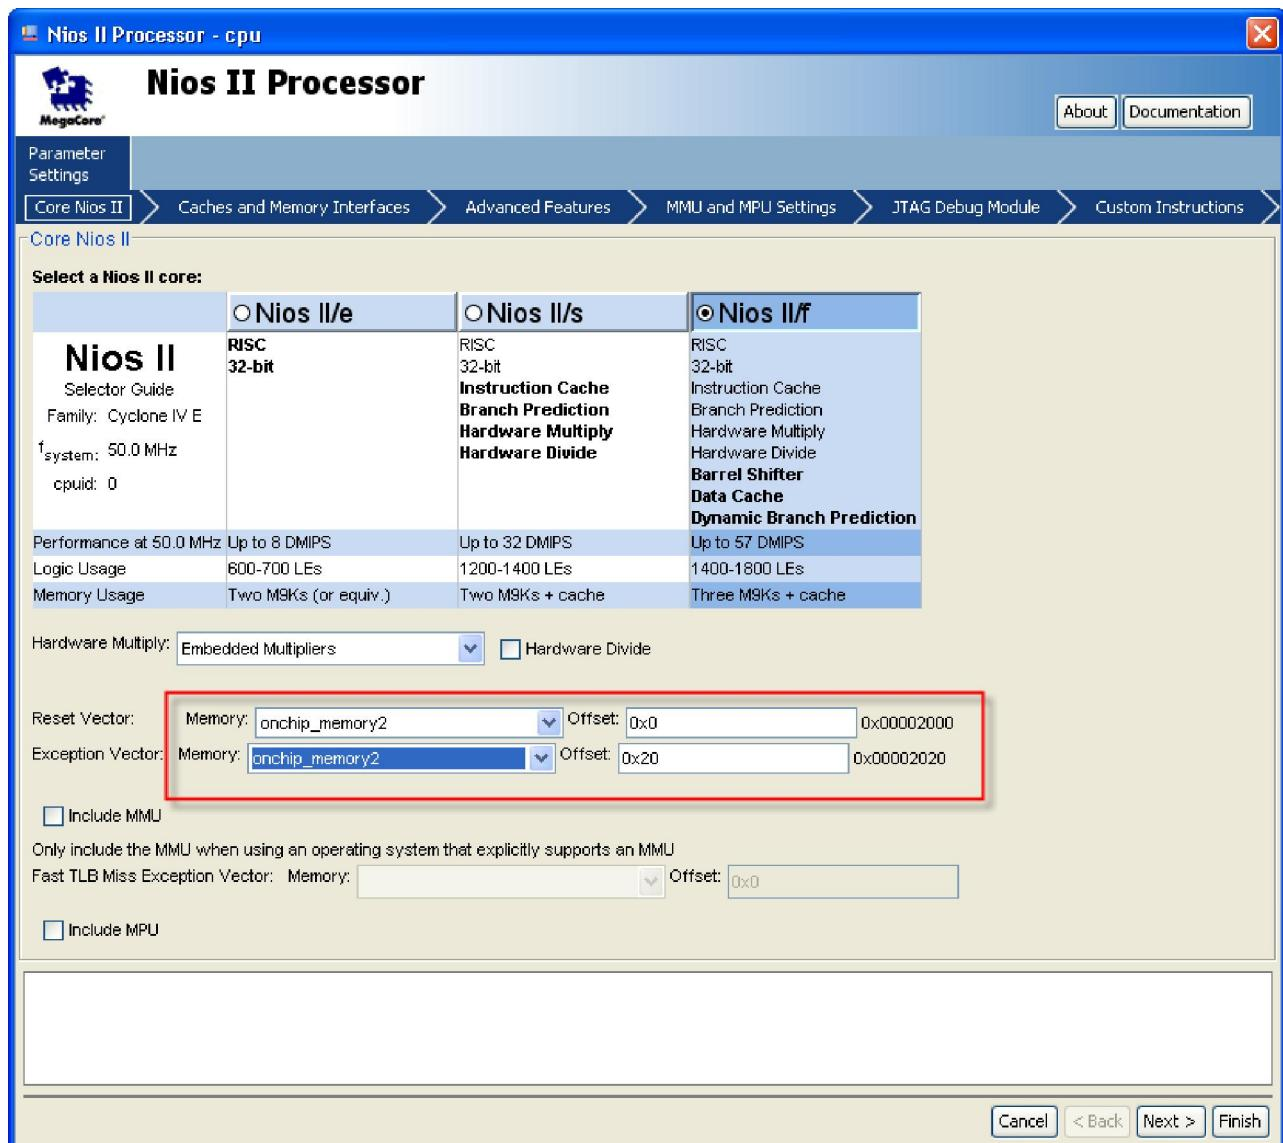
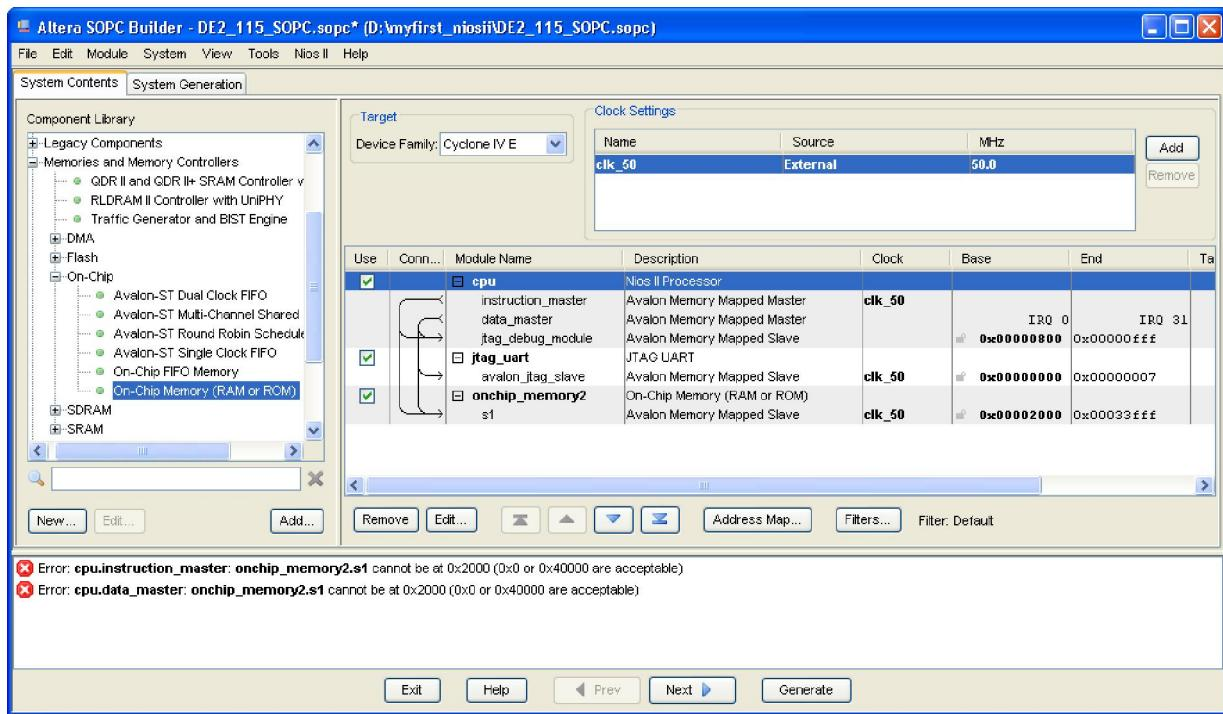

Figure 1-28 Update CPU settings
Figure 1-29 Update CPU settings Completely
18. Click **cpu** in the component list on the right part to edit the component. Update **Reset vector** and **Exception Vector** as shown in **Figure 1-28**. Then click **Finish** to return to the window as shown **Figure 1-29**.